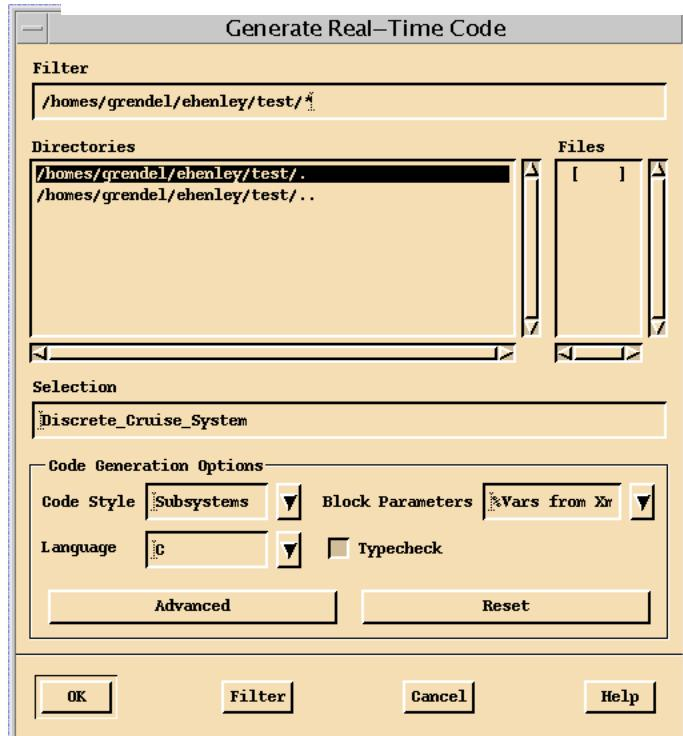

Figure 5-1. Generate Real-Time Code Dialog
4. From the Catalog Browser, select Tools→AutoCode to bring up the Generate Real-Time Code dialog (see Figure 5-1).